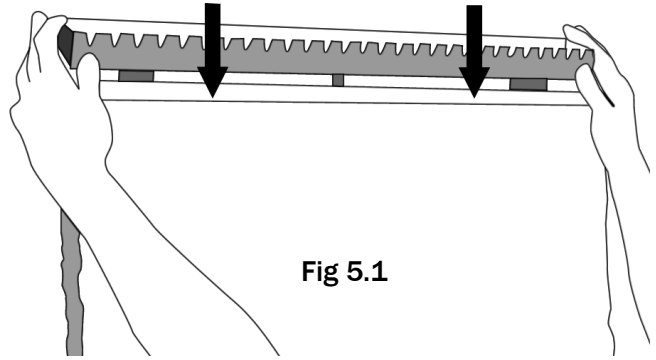

Fig 5.1
1. Gently lift the dispenser (E) of the mounted stone from behind the Pocket Clips (M) and remove each Pocket Clip out of the Wall bracket pocket (B). Slide the tabs on the dispenser (E) behind the stone and into the bracket pockets on the wall bracket (B) (Fig 5.1). The dispenser (E) should sit evenly along the angle on the stone edge. Press the dispenser (E) down firmly to ensure there are no gaps between it and the stone. Center the Dispenser (E) from left to right on the stone. You will place the Pocket Clips in the pockets of the next wall bracket for the stone you will mount. Remember to keep the pocket clips should you need to install your fountain in a new location.